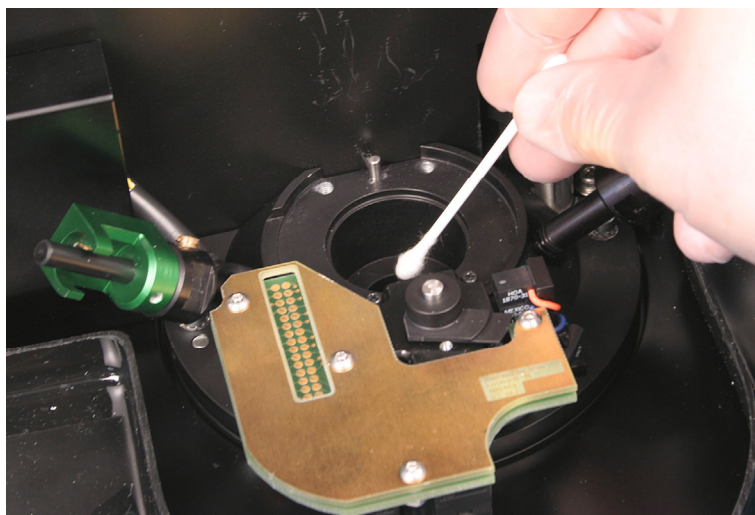

Figure 5–56. Cleaning the Varioskan LumiSens base from above
4. Clean the Varioskan LumiSens base from the top by soaking a cotton stick in a mild detergent solution, soap solution, or 70% ethanol (Figure 5–56). Do not use formaldehyde.